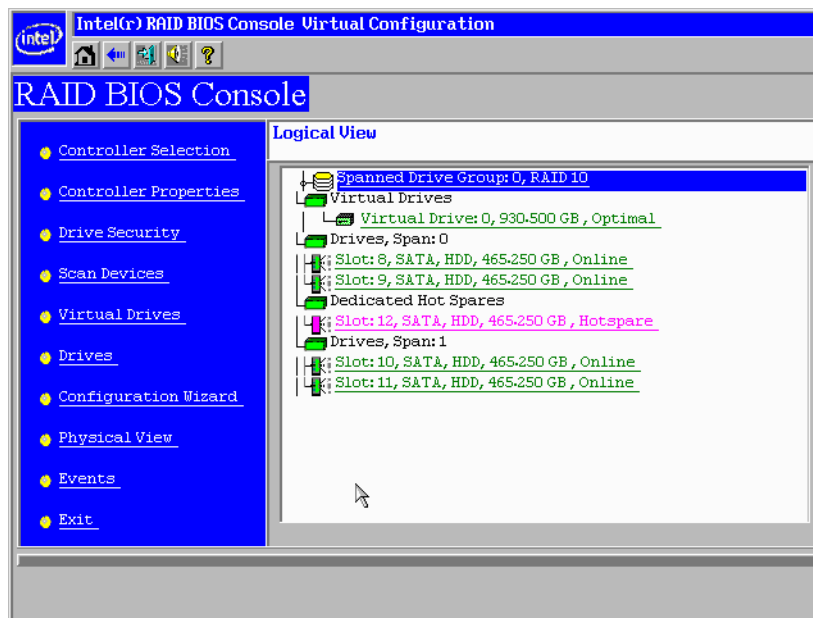

Figure 29. Intel® RAID BIOS Console 2 – hot spare drive listed in main screen
- Click **Home** to return to the main screen. The hot spare drive is listed in the main screen as shown in Figure 29.